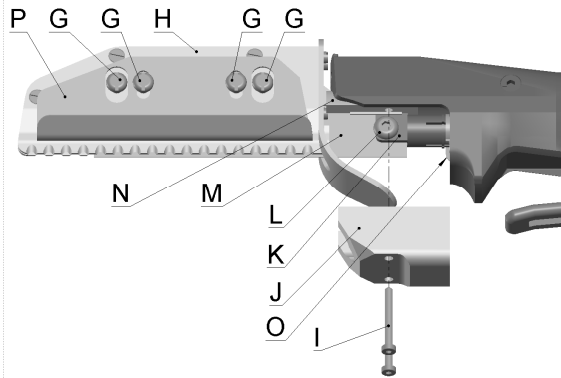

Fig. 4 Knife connection to machine EFA-S5 L
The finger guard (Item J, Fig. 4) is a safety component and prevents severe injuries to the body caused by cutting.
1. Remove the 4 screws (Item F, Fig. 4) using a slotted screwdriver and carefully pull the blade guard (Item H, Fig. 4) and supporting bracket (Item P, Fig. 4) off forwards.
2. Remove the 2 screws (Item I, Fig. 4) using an Allen key and carefully pull the finger guard away downwards (Item J, Fig. 4).
3. Release the screw (Item L, Fig. 4) using an Allen key and then remove the blade (Item M, Fig. 4).
4. Fit the replacement blade (Item M, Fig. 4), screw (Item L, Fig. 4) and supporting washer (Item K, Fig. 4).
Important: Make sure that the supporting washer is in the correct position (Item K, Fig. 4) and also make sure that the knife (Item M, Fig. 4) runs
smoothly. The knife must be guided in the slot on the rear bar (Item N, Fig. 4).
5. Check the screw (Item O, Fig. 4). Torque 3 Nm.
6. Fit the finger guard (Item J, Fig. 4), blade protection (Item H, Fig. 4) and support bracket (Item P, Fig. 4) again. Adjust the blade guard and support bracket with the screws (Item G, Fig. 4) to an ideal position in relation to the knife (Item M, Fig. 4).